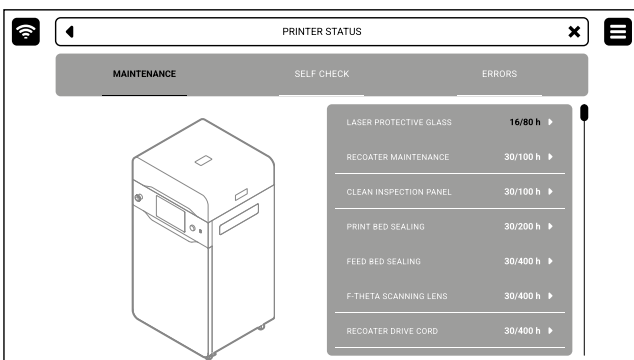

Fig. 13.14 Select the **RECOATER MAINTENANCE** position to start the maintenance.
1. On the **PRINTER STATUS** tab, select the **RECOATER MAINTENANCE** position (fig. 13.14)